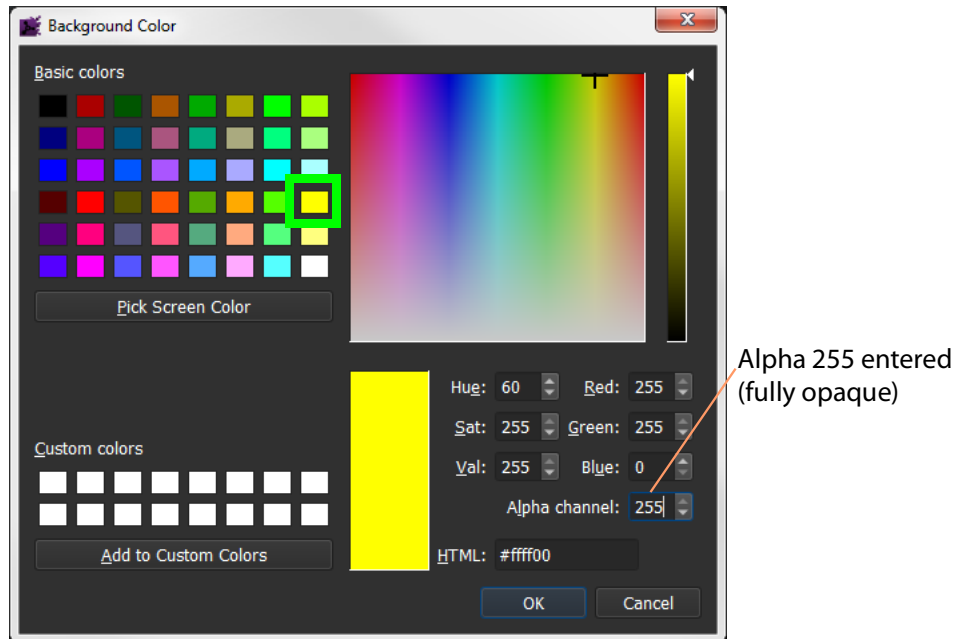

Fig. 7-13: Color Picked
- 5 Click on the  icon to show the **Background Color** dialog. See Figure 7-13 on page 180.